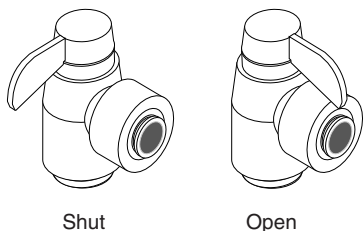

Figure 4: Tank valve must be open for installation
- Place the storage tank in a convenient location under the sink. Make sure that the tank valve is OPEN (See Figure 4).